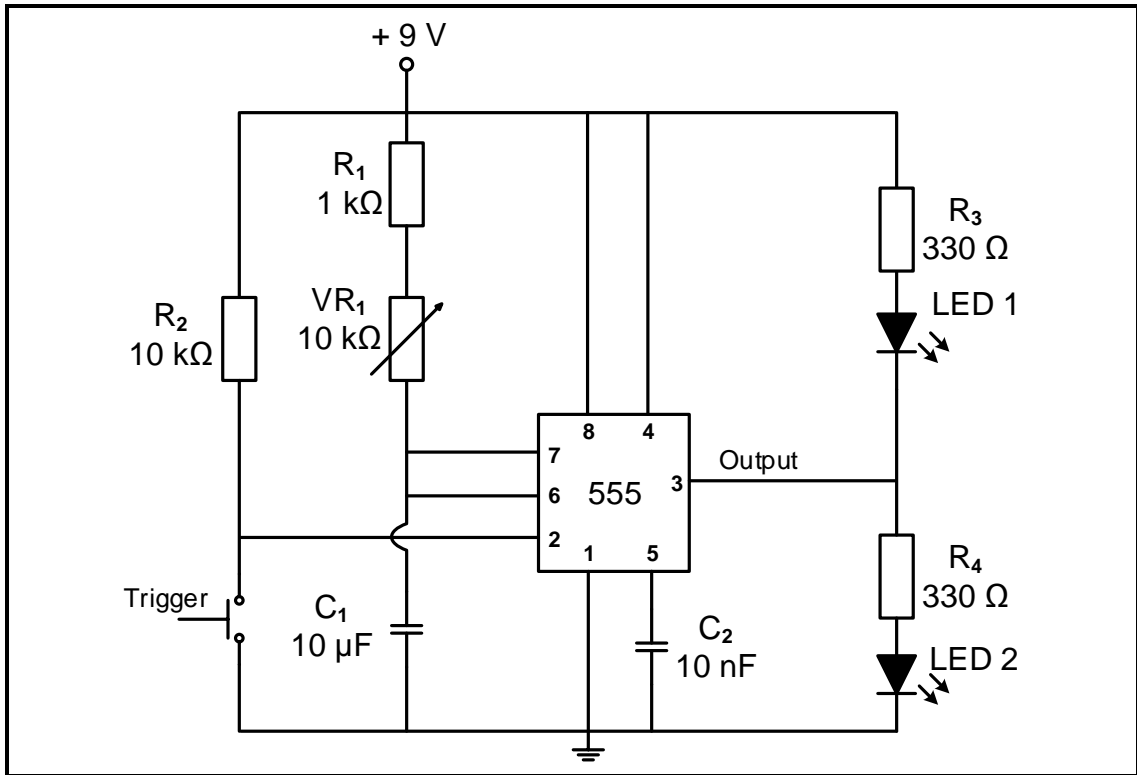
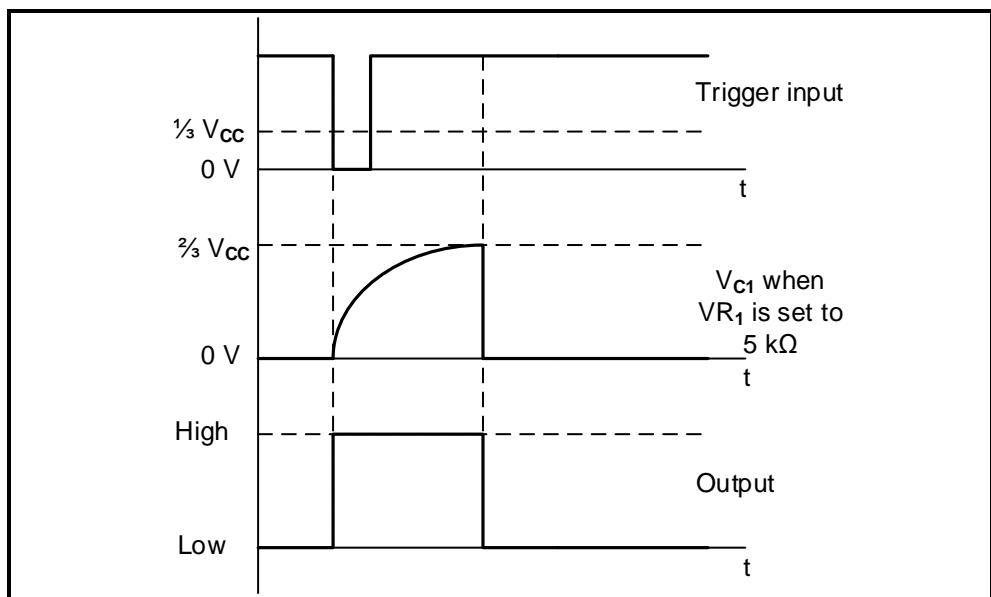

FIGURE 2.3: MONOSTABLE MULTIVIBRATOR
FIGURE 2.3.2: SIGNALS
2.3 FIGURE 2.3 below shows a monostable multivibrator using a 555 IC.
2.3.2 FIGURE 2.3.2 below shows the trigger input, capacitor charge and output signals of the multivibrator in FIGURE 2.3. The variable resistor (VR_1) is set to 5 kΩ. On the ANSWER SHEET for QUESTION 2.3.2, draw the charging voltage V_{C1} and corresponding output if variable resistor (VR_1) is changed to 10 kΩ.